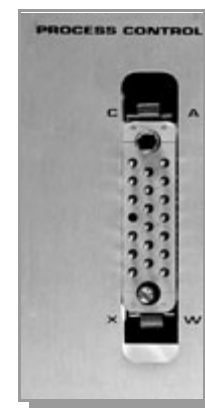

Figure 3-6 Process Control Output Connector.
1. Using Table 3-2 and Figure 3-6 and circuit schematics you have prepared, make up a cable to connect the various system components which are to be controlled. Unambiguous labeling of each lead will help prevent costly mistakes.